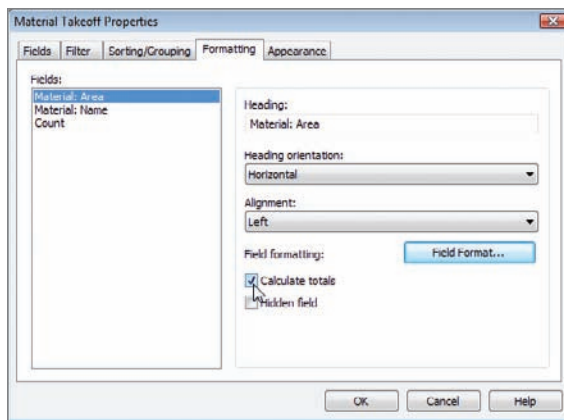

FIGURE 11.29 On the Formatting tab, you can specify Calculate Totals for the Material: Area option.
1. In the Properties dialog, click the Edit button next to the Formatting row to bring up the Material Takeoff Properties dialog, shown in Figure 11.29.
2. In the field to the left, select Material: Area, as shown in Figure 11.29.
3. To the bottom right, check Calculate Totals, as shown in Figure 11.29.